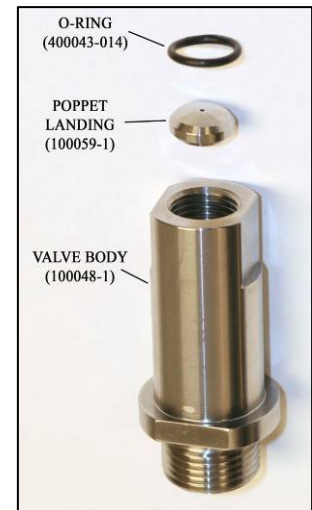

Figure 9
17. Apply a thin coat of Blue Goop to the Poppet Landing and insert in the outlet end of the Valve Body. Push the O-Ring (400043-014) into the groove to hold the Poppet Landing in place. **See Figure 9.**